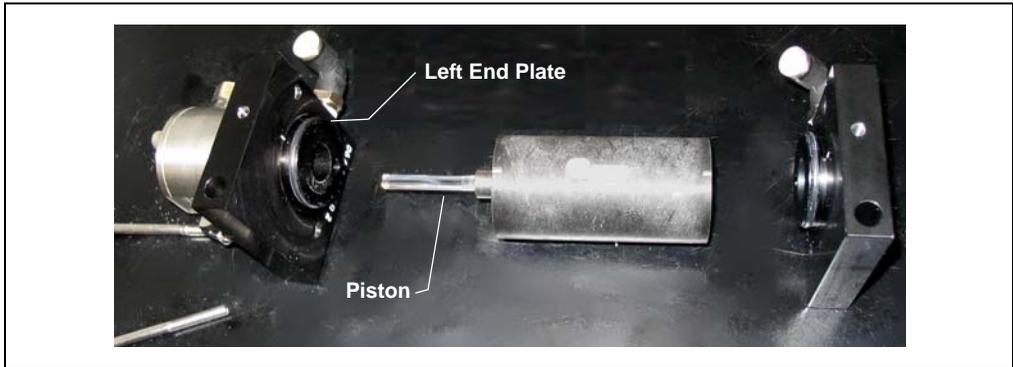

Figure 5-15. Removing the Pump Left End Plate
4. Remove the left end plate from the cylinder, exposing the piston (see Figure 5-15).